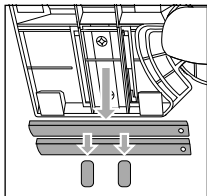

Fig. 1
- ◆ Remove the retaining clips **8** from the underside of the product and remove the guide rods **7** (see fig. 1). Dispose of the retaining clips **8**.